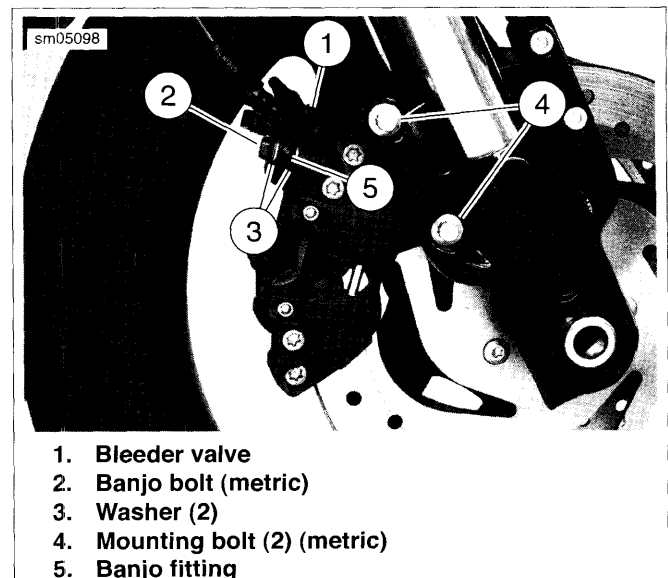

Figure 2-78. Front Caliper Assembly: XR Models
2. See Figure 2-78. Place brake caliper over brake disc with bleeder valve (1) facing upwards. Install mounting bolts (4) and tighten to 28-38 ft-lbs (38.0-51.6 Nm).